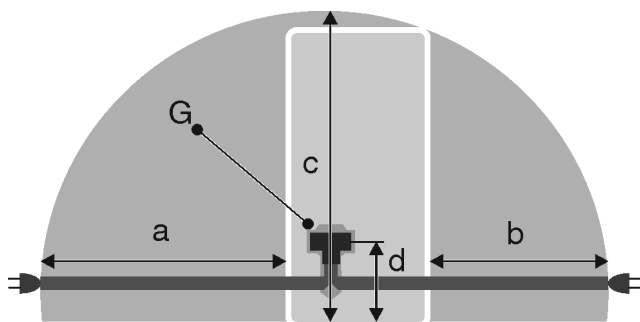

Fig. 20 Fridge/freezers / freezers / full-space BioFresh appliances
- The socket is not located behind the appliance but in areas a or b Fig. 20 (a, b, c).
- ▶ Insert the appliance plug Fig. 20 (G) on the rear side of the appliance. Ensure that they latch into place correctly.